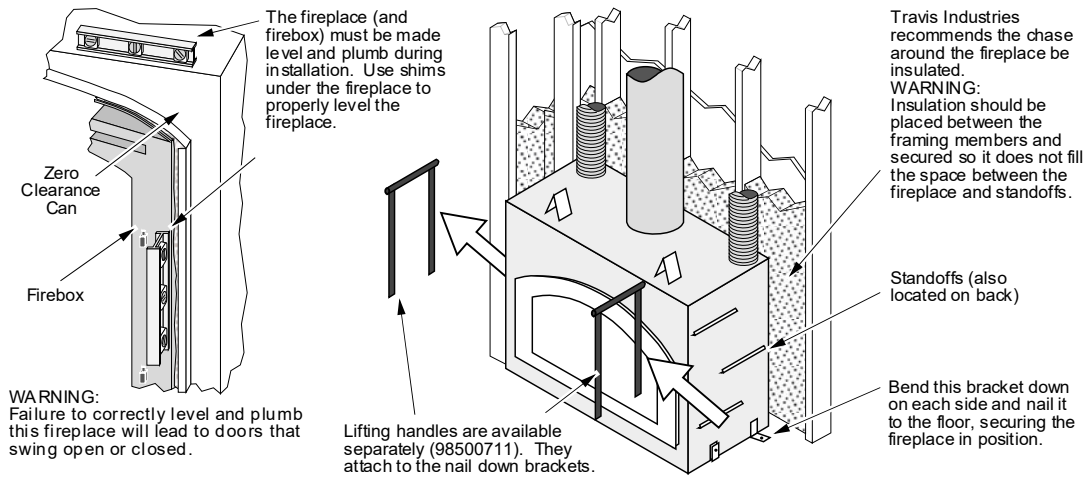

Figure 9
- The fireplace must be secured to the floor (use the lifting handle brackets - see Figure 9).